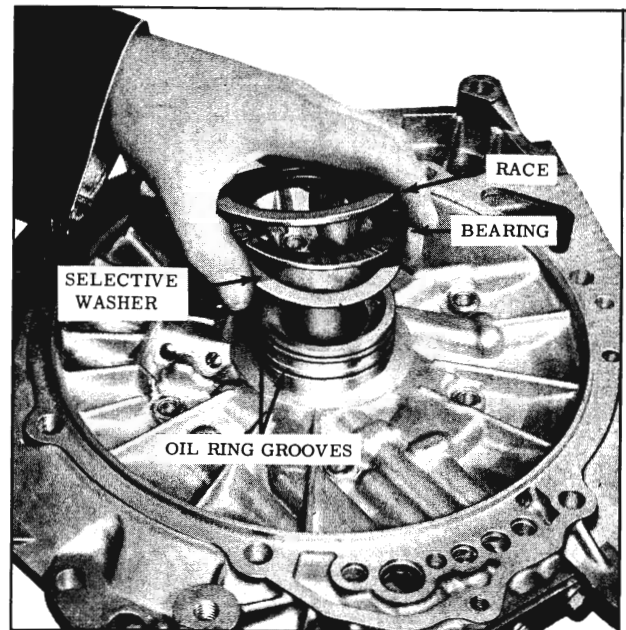

Fig. 3-52 Removing Race, Bearing and Washer
5. Remove race, thrust bearing, race and selective washer(s) from case cover. (Fig. 3-52)